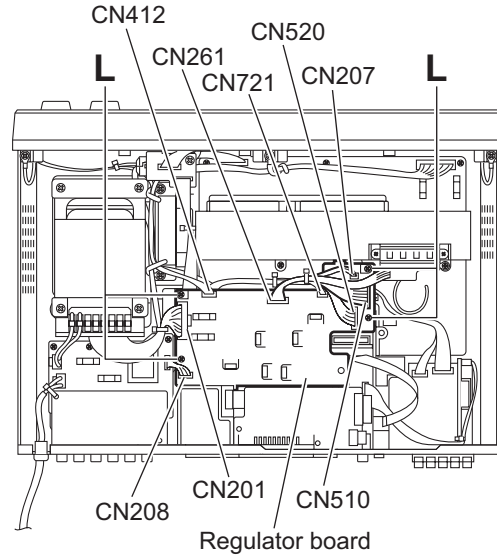

Fig.11
3.1.11 Removing the regulator board (See Fig. 11)